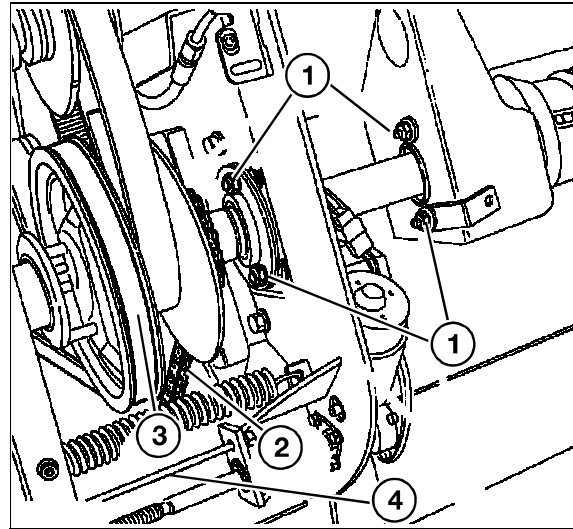

Fig. 5
**REEL VARIATOR BELT - Fig. 5**